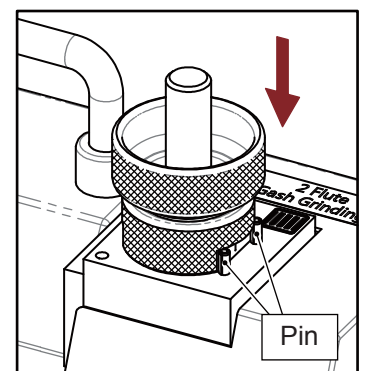

Fig. 8-3
3. 2 Flute End Gash Grinding (IIII) (Fig. 8-3)
- ① Insert the Chuck set into Shelf (IIII), align Slot No.1 with the two pins on the shelf, gently push the Chuck set until the grinding noise stops.
- ② Take the Chuck set out, turn it to grind the Slot No.2 in the same way.